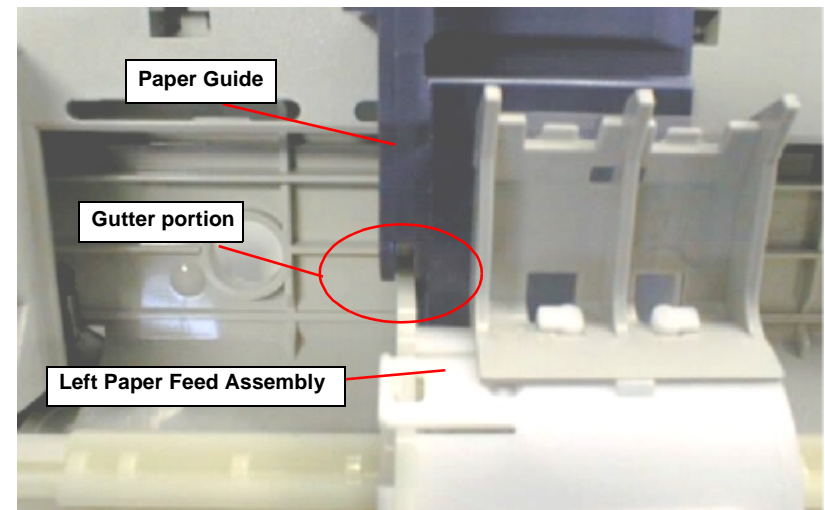

Figure 4-31. Setting the Left Paper Feed Assembly
- Make sure that the Left frame of the Paper Feed Assembly is in the gutter of the Paper Guide. Refer to Figure 4-31.